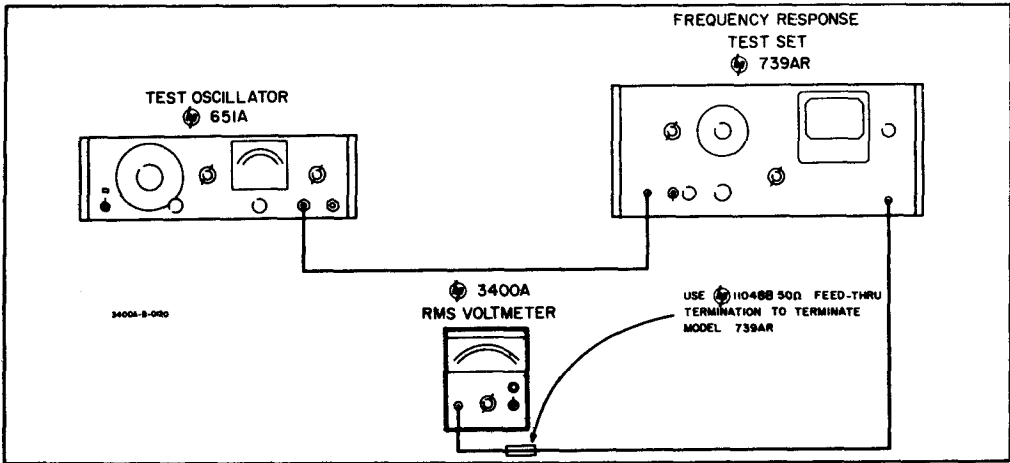

Figure 5-2. Frequency Response Test Setup
5-10. The frequency response test setup is illustrated in Figure 5-2. A Frequency Response Test Set (Model 739AR) and an Oscillator (Model 651A) are required for this test.
- a. Connect test setup illustrated in Figure 5-2.